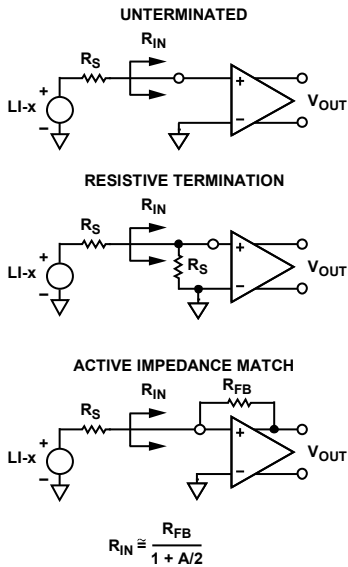

Figure 49. Input Configurations
The short-circuit noise voltage (input-referred noise) is an important limit on system performance. The short-circuit noise voltage for the LNA is 0.75 nV/√Hz at a gain of 21.3 dB, including the VGA noise at a VGA postamp gain of 27 dB. These measurements, which were taken without a feedback resistor, provide the basis for calculating the input noise and noise figure (NF) performance of the configurations shown in Figure 49.